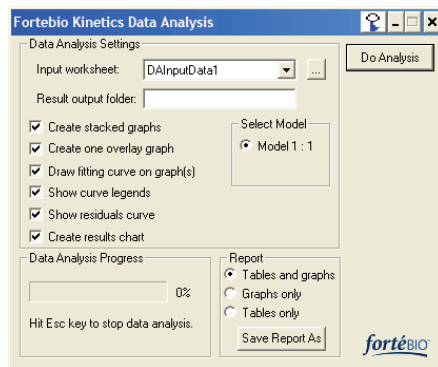

Figure 5.13 Origin software main window and FortéBio kinetics data analysis settings
Sensor Loc (Exp Name)	Choose this option to use the sensor well location as the tracking ID in the Origin results worksheet (Figure 5.13).
Figure 5.13 shows the steps to analyze basic kinetics data.
2. To generate an analysis report (.doc), click **Save Report As** (Figure 5.13).
3. To save the analysis to an Origin project, select **File** → **Save Project** on the Origin main menu (Figure 5.13).
- To generate a report of the analysis results (.doc), click **Save Report As** in the Kinetics Data Analysis dialog box (Figure 5.13, page 57).